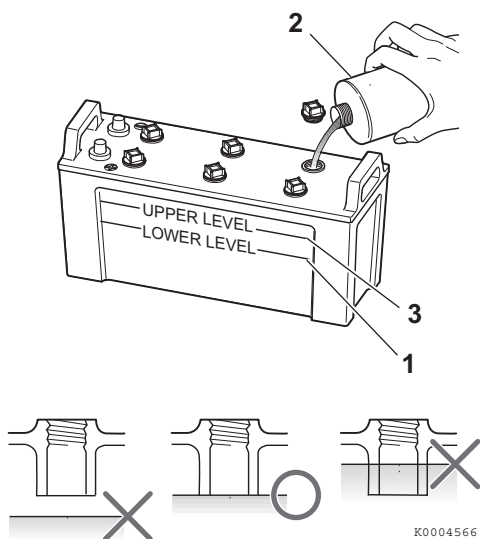

Figure 12
4. If the level is lower than the minimum fill level (**Figure 12, (1)**), fill with distilled water (**Figure 12, (2)**) (available in the grocery store) up to the upper limit (**Figure 12, (3)**) of the battery.